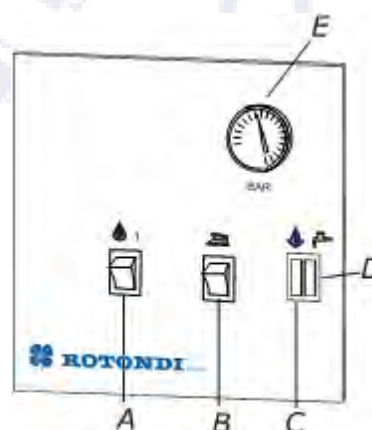

Fig. 2
3. Switch on the boiler (fig. 2 A), the iron (fig. 2 B) and adjust the thermostat (fig. 5) on "cotton".
4. Wait for the boiler lamp to switch off (fig. 2 C).
To adjust steam flow, you must work on the hand-wheel for steam adjustment (fig. 3). During ironing operation, the boiler lamp switches on and off (fig. 2 C).
3. Empty the boiler only when it is switched off and cold (with no pressure) less than 0,5 Bar (fig.2 E). For carrying out this operation, wear gloves against possible burns.
During the ironing, if steam flow decreases considerably and then ends definitely, it means that there is no more water in the boiler. So MINI 5 has to be switched off by disconnecting the plug; rotate the valve plug (fig. 3) of 360° and wait for steam to go out completely. Unscrew the valve plug with care and wait some minutes. Then fill the boiler with water (fig. 3). Screw the valve plug again, connect the plug and wait for the boiler lamp to switch off (fig. 2 C). Now the iron is ready again.